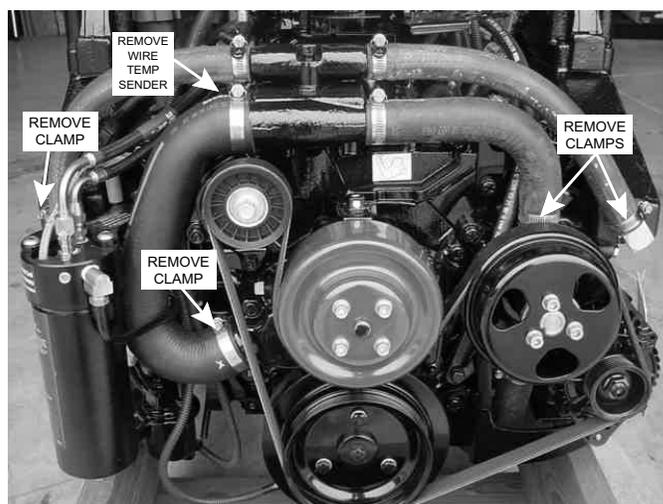

Figure 1-3 Disconnect Points - Steps 3a, 3b.
- b. Loosen the hose clamps of the raw water dump hoses at each exhaust manifold connection; the raw water pump hose at the raw water pump, and the raw water supply to engine hose at the circulating pump. Refer Figure 1-3.